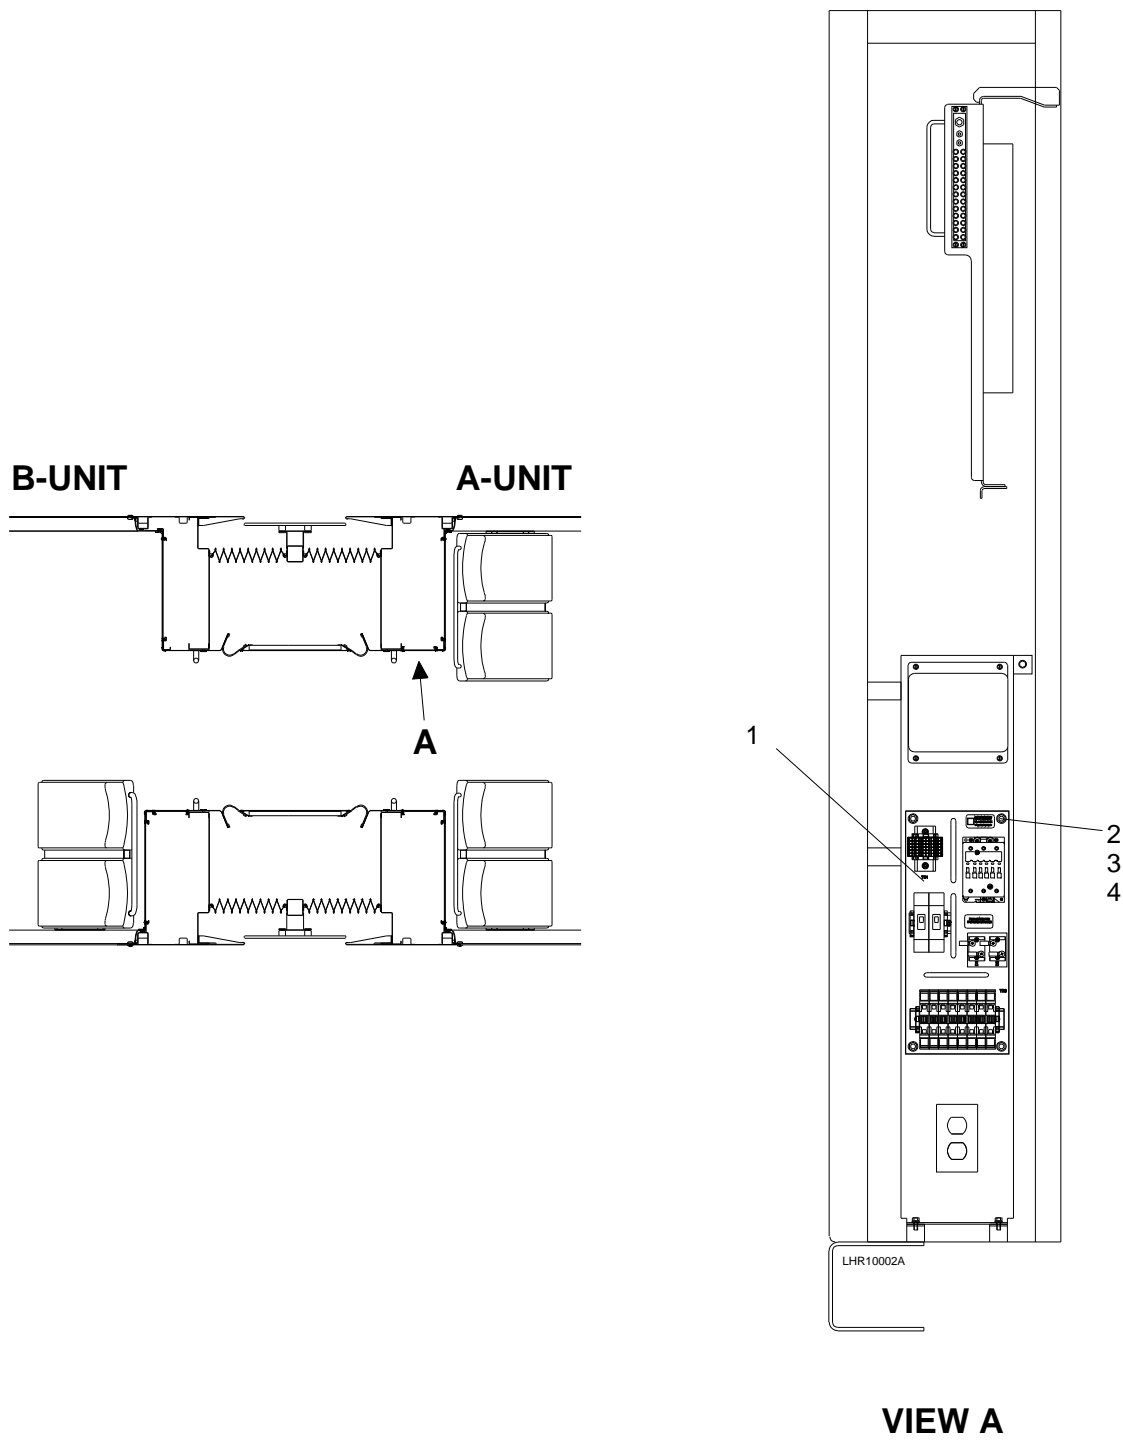

Figure 7-2: Track Brake Panel C
1. Open the electric locker access door. See Figure 7-2.
2. Remove the electrical connections to the Track Brake Panel C (1).
3. Remove the four M8 x 25 bolts (2), M8 lock washers (3), and M8 plain washers (4).
4. Carefully remove the Track Brake Panel C (1).
2. Carefully install the Track Brake Panel C (1) aligning the mounting holes.
3. Install the four M8 x 25 bolts (2), M8 lock washers (3), and M8 plain washers (4).